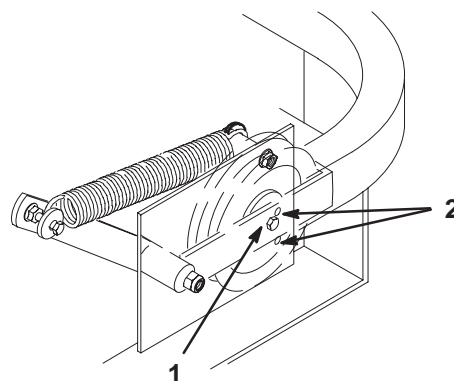

Figure 64
6. Check belt tension. The center bolt of spring loaded idler must be between the two alignment holes in left support plate (Fig. 64).
Check position of center bolt in a High Height of Cut. The center bolt must be at or above the lower adjustment hole (Fig. 64).
8. Check belt tension again. The center bolt of spring loaded idler must be between the two alignment holes in left support plate (Fig. 64). Adjust, if necessary, and tighten all hardware securely.